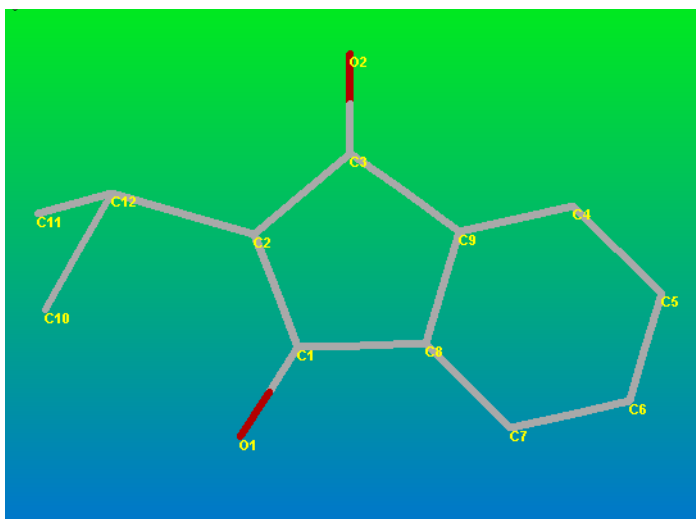

Figure 9.18 - Correctly labeled model
**NOTE:** If working on the YLID test data, look at Figure 9.18 and click on the peaks to give the same order as used here. Right-click and choose Labelling. Select Carbon and apply the labels.